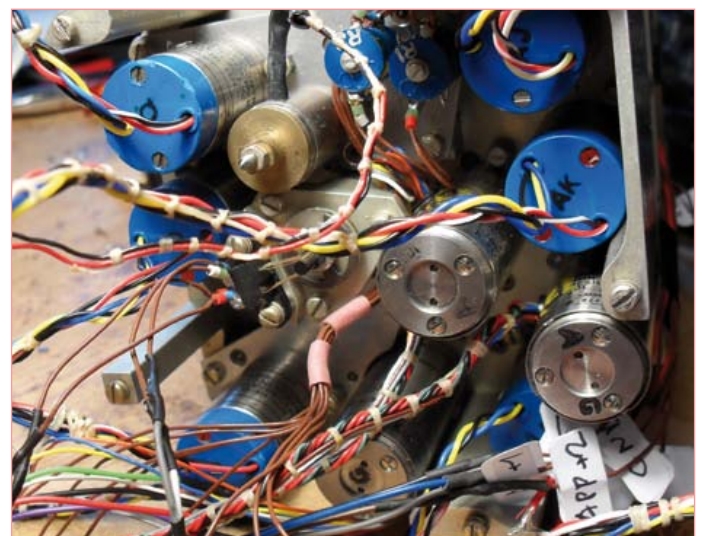

Figure 1. A peek around the back showing the motors and synchros
A local supplier of surplus electronic instruments [1] had already caught the attention of the Elektor team and was the subject of a Retronics installment in Elektor [2]. The surplus piece of kit in question here (**Figure 1**) is a 'Horizontal Situation Indicator' (HSI) [3] which in some previous life graced an aircraft's instrument panel. This combination instrument includes indicators for the VHF Omni-directional Range (VOR) radio navigation system, the glide path (ILS) and the Heading Indicator (HI).
A view around the back of the instrument (**Figure 1**) reveals the impressive collection of electromagnetic devices used in the instrument. Some parts have a blue end cover and some have a plain metal cap. The blue components come from the aerospace and avionics component manufacturer Muirhead [5]; these devices have three wires for the primary side and two for the secondary side. It turns out that the units function as synchros [5] or resolvers. A good description of how these components work can be found at